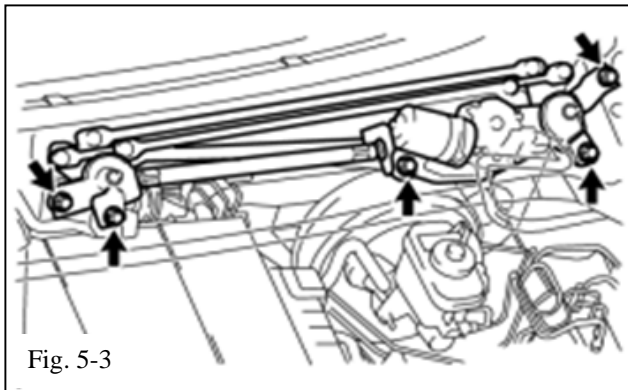

Fig. 5-3
- (d) Disconnect the electrical connector, 1 nut and 4 bolts, and then remove the wiper motor and link assembly (Fig. 5-3).